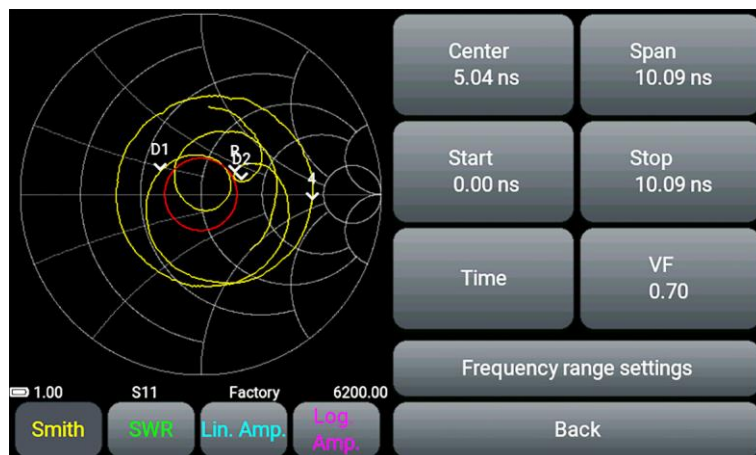
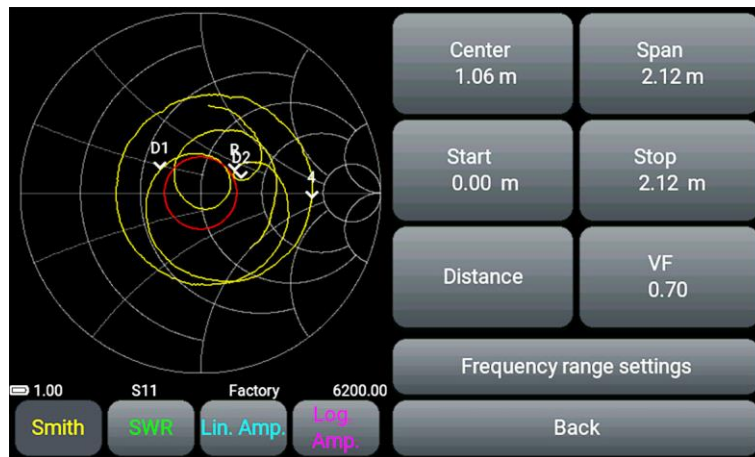

Figure 9.6 - Menu of parameters of the time scale of the DTF plot
Figure 9.7 - Menu of parameters of the distance scale of the DTF plot
9.3.2. Press the button **DTF range settings**. The device menu will switch to adjust the time (Figure 9.6) or distance (Figure 9.7) parameters of the horizontal **DTF** plot scale.